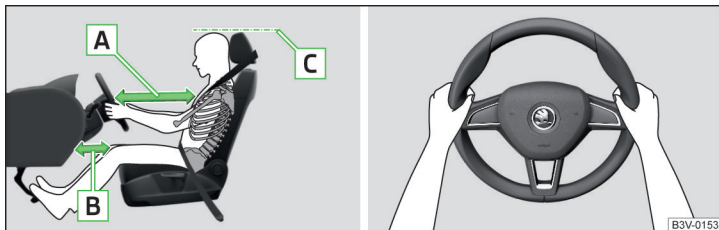

Fig. 15 Correct seated position for the driver/correct steering wheel position
- ✓ For vehicles equipped with driver knee airbags, adjust the driver's seat in a forward/back direction so that there is a gap of at least 6 cm between the legs and the dashboard in the vicinity of the knee airbag » Fig. 15 - [B].
- ✓ Adjust the steering wheel so that the distance between the steering wheel and your chest is at least 25 cm » Fig. 15 - [A].
- ✓ Adjust the headrest so that the top edge of the headrest is at the same level as the upper part of your head (not for seats with integrated headrests) » Fig. 15 - [C].
- When driving, hold the steering wheel with both hands firmly on the outer edge in the "9 o'clock" and "3 o'clock" position » Fig. 15. Never hold the steering wheel in the "12 o'clock" position or in any other way (e.g. in the middle, inner edge of the steering wheel or similar). Otherwise, in the event of airbag deployment, you could suffer serious injury to the arms, hands and head.
- ✓ Adjust the headrests so that the top edge of the headrest is at the same level as the upper part of your head » Fig. 15 on page 20 -  (not for seats with integrated headrests).
- ✓ Adjust the headrests so that the top edge of the headrest is at the same level as the upper part of the head » Fig. 15 on page 20 - .